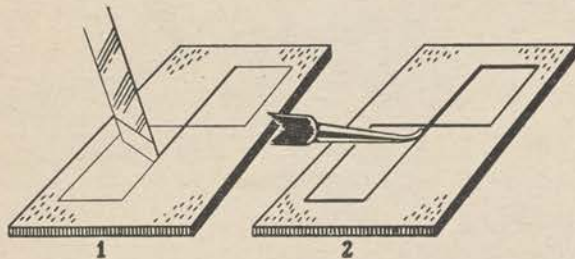

Figure 25.
b. The pattern is transferred to the leather as above. While the surface is still damp, take a very sharp knife and cut along the lines of the design to a depth of about $\frac{1}{4}$ that of the leather (fig. 25).